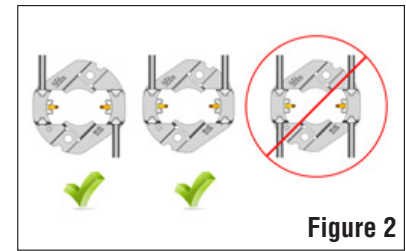

Figure 2
- Use only one wire per electrical cartridge. (Figure 2)